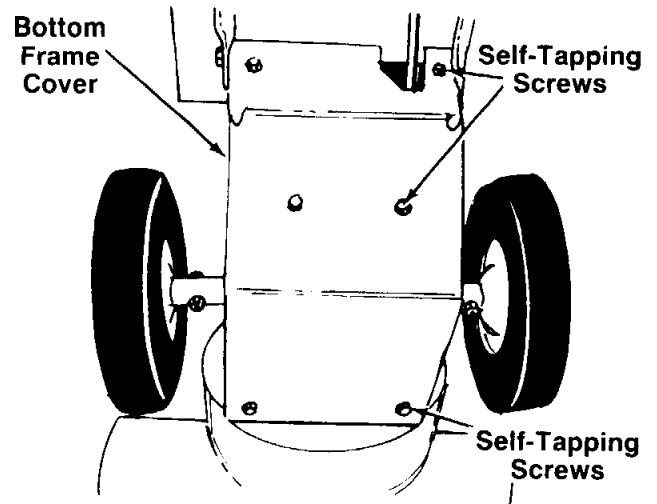

FIGURE 36.
1. Move the shift lever into (R) reverse position. This will move the friction wheel over to the extreme left side, inside the frame.
3. Remove the bottom frame cover by using a 3/8" wrench to remove the six self-tapping screws. See figure 36.